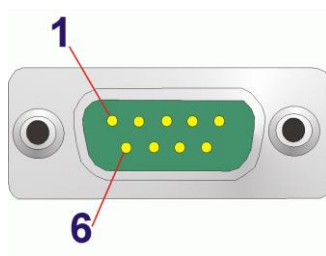

Figure 3-22: RS-232/422/485 Serial Port Pinout Locations
- CN Pinouts:** See **Table 3-18** and **Figure 3-22**